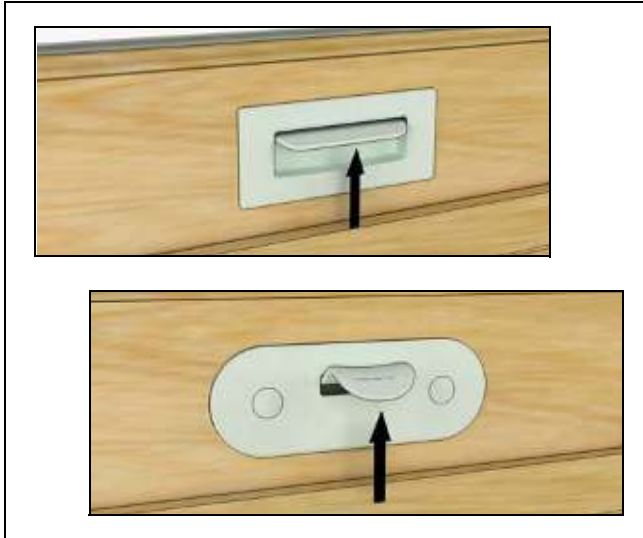

Figure 33
1. To unlock, lift up on the Lift Lock handle. See Figure 33.